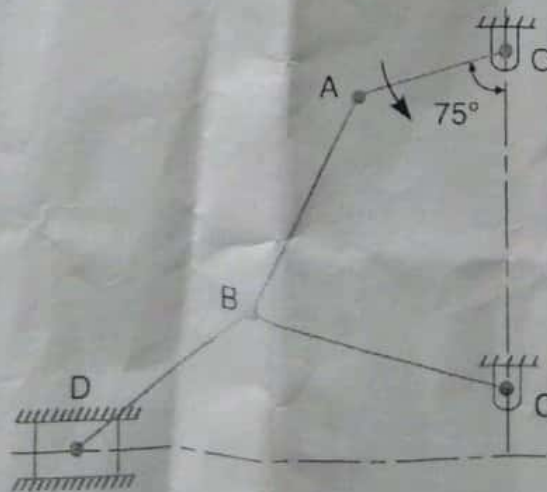

Figure 1
3. In Figure 1, the angular velocity of the crank OA is 600 r.p.m. Determine (i) the linear velocity and the linear acceleration of the slider D and (ii) the angular velocity and angular acceleration of the link BD, when the crank is inclined at an angle of  $75^\circ$  to the vertical. The dimensions of various links are: OA = 28 mm; AB = 44 mm; BC = 49 mm; and BD = 46 mm. The centre distance between the centres of rotation O and C is 65 mm. The path of travel of the slider is 11 mm below the fixed point C. The slider moves along a horizontal path and OC is vertical. [20]